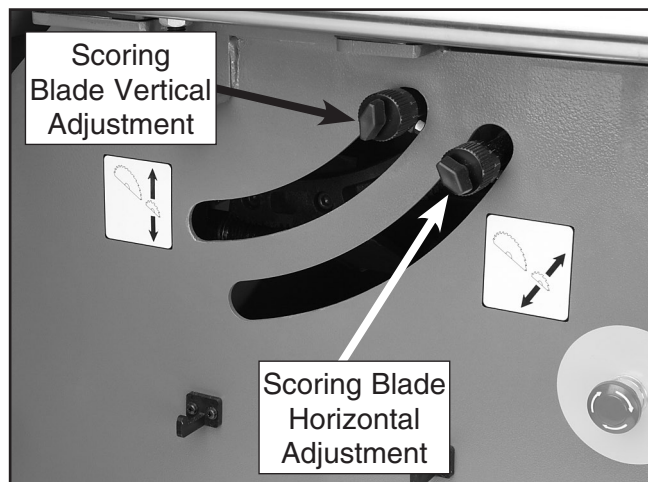

Figure 49. Scoring blade adjustment controls.
1. Move the blade tilt to 0° (blade 90° to table), raise the main blade all the way up, and use the vertical adjustment knob (**Figure 49**) to raise the scoring blade to its highest point.